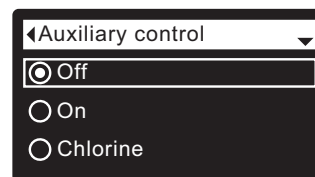

FIG. 90
7. Press the SELECT (O) button to display the Auxiliary control menu (See Figure 90).
8. If the desired option already has a dot next to it (See Figure 90), go to Step 9. Otherwise, press the DOWN (▼) or UP (▲) buttons to scroll to the desired option, then press SELECT (O) to choose it.